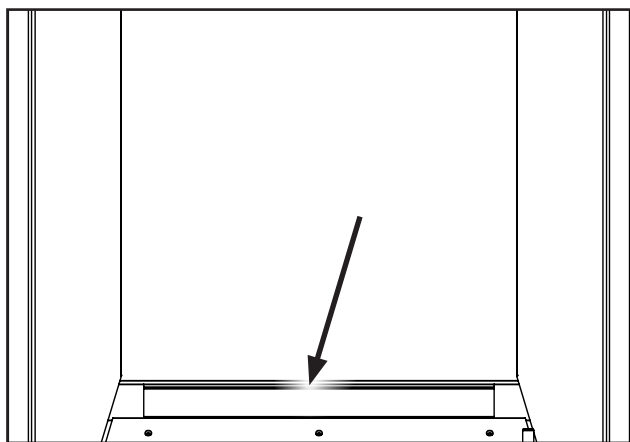

Figure 65. Rear Panel Ledge.
5. Install the rear porcelain panel first by sitting it on the ledge at the rear of the firebox (see figure 65), then follow with the left and right panels.